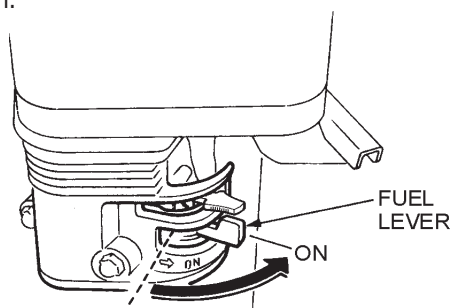

Figure 1. Engine Fuel Valve Lever (ON Position)
1. Place the engine **fuel valve lever** (Figure 1) to the "ON" position.